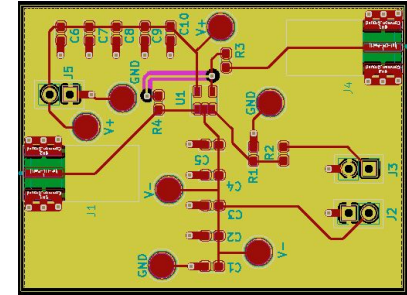

Figure 2: PCB Layout of Op-Amp from KiCad
2. Test the gain of the Op-Amp versus different frequency values based on the datasheet specifications (Figure 2).